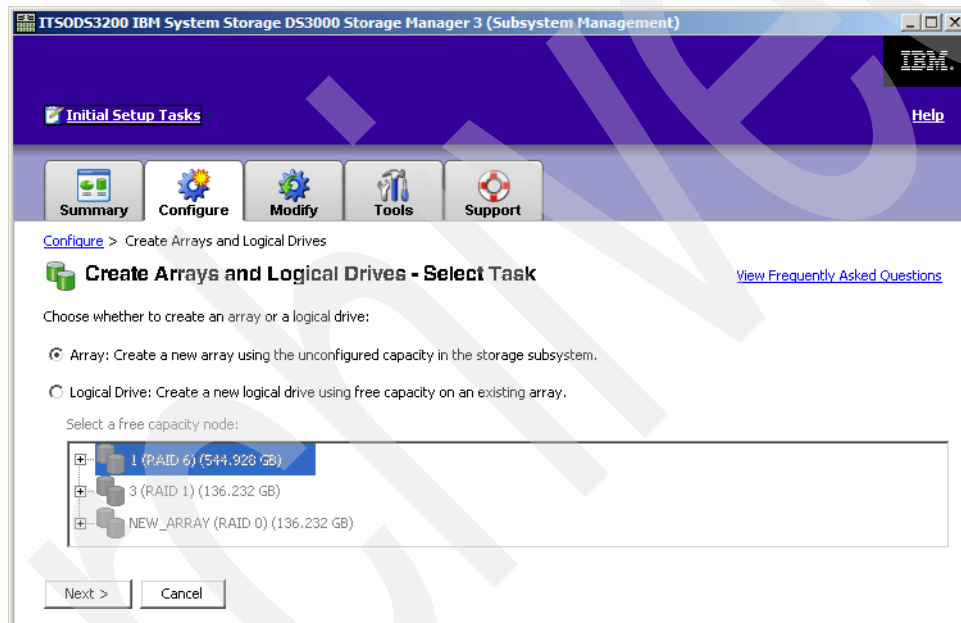

Figure 20-18 Create New Array
3. Select the **Array:Create new array using the unconfigured capacity in the storage subsystem** radio button and click **Next** (Figure 20-18).